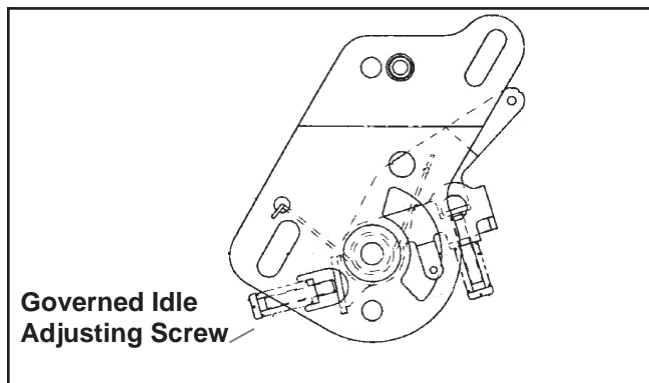

Figure 5-26. Location of Governed Idle Adjusting Screw.
3. Release the governor lever and allow the engine to return to the governed idle speed. Check it with a tachometer against the equipment manufacturers recommended idle speed. If adjustment is necessary, use the governed idle adjusting screw on the speed control assembly (see Figure 5-26). Turn the screw clockwise to increase the governed idle speed and counterclockwise to decrease it.